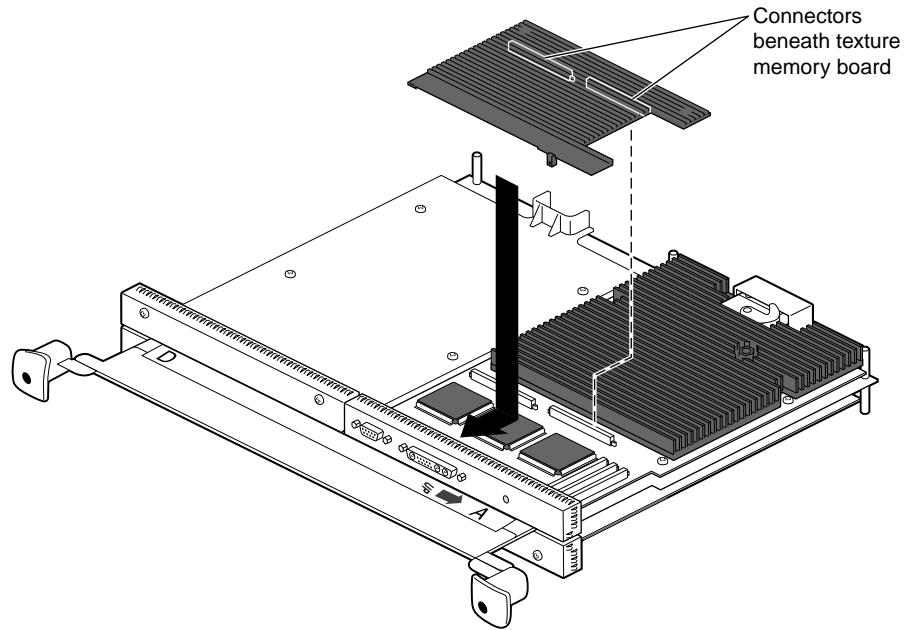

Figure 2-15 Installing the Texture Memory Option Board on the OCTANE/SI or SE Graphics Board
2. Align the texture memory option board above the graphics board as shown in Figure 2-15.